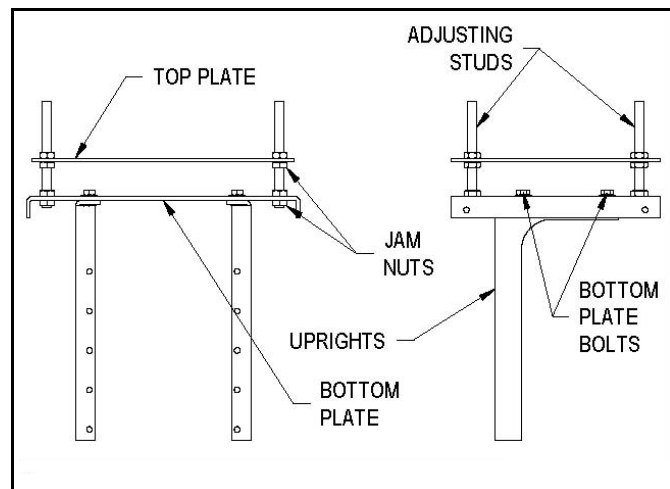

Figure 3.4 Motor Mount Components
Refer to Figure 3.4 for descriptions of component parts.
2. Assemble the uprights in the innermost slots. The bottom plate may be mounted with the vertical flanges up or down (as shown in Figure 3.4).